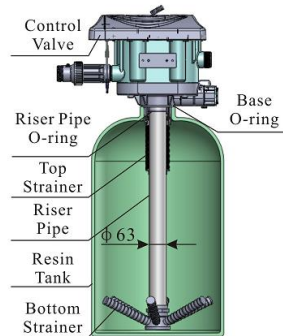

Figure 1-1
- ① The filter or softener should be located close to drain.
- ② Ensure the unit is installed in enough space for operating and maintenance.
- ③ Brine tank need to be close to softener.
- ④ The unit should be kept away the heater, and not be exposed outdoor. Sunshine or rain will cause the system damage.
- ⑤ Please avoid to install the system in one acid/alkaline, magnetic or strong vibration circumstance, because above factors will cause the system disorder.
- ⑥ Do not install the filter or softener, drain pipeline in circumstance which temperature may drop below 5°C, or above 45°C
- ⑦ One place is recommended to install the system which cause the minimum loss in case of water leaking.
① Install control valve
- a. As the Figure 1-1 shows, select the riser pipe with 63mm OD, glue the riser pipe to the bottom strainer and put it into the mineral tank, cut off the exceeding tube out of tank top opening. Plug the riser tube in case of mineral entering.